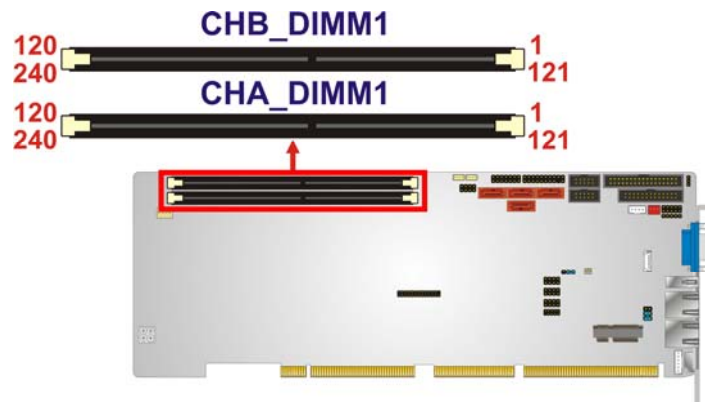

Figure 3-6: DDR3 DIMM Slot Locations
- CN Location:** See **Figure 3-6**